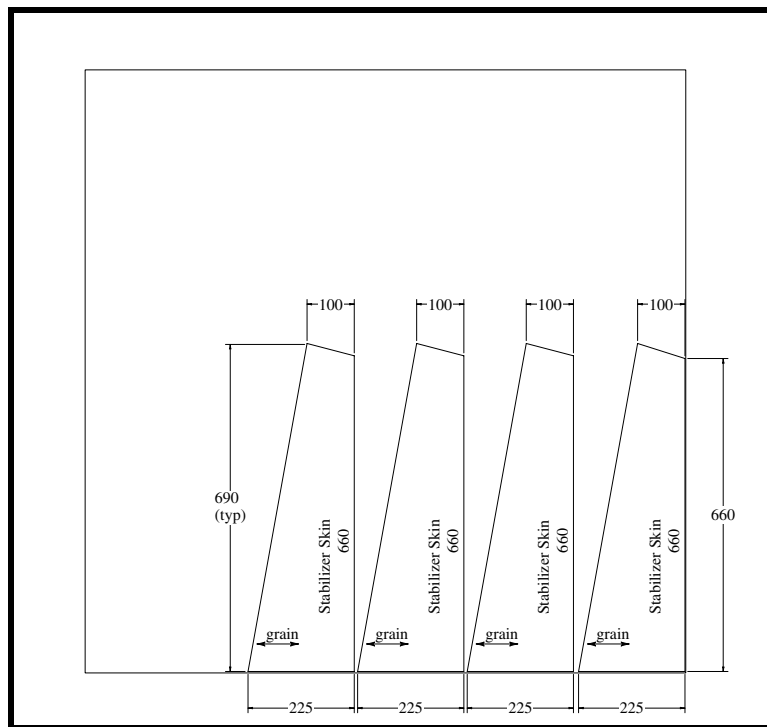

Figure 7
- ❑ Use one 50"x50" sheet of 1.5mm birch plywood and cut in accordance with Figure 7.